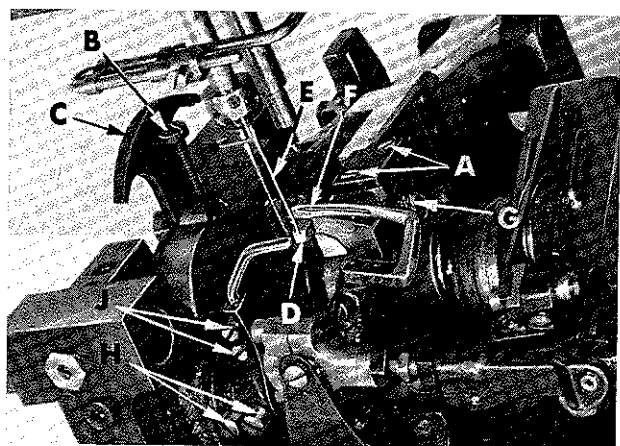

Fig. 11
To center main feed dog in the slots of throat plate across-line-of-feed, loosen screws (A, Fig. 11), move feed dog to the right or left as required, retighten screws. To center the feed dog in-line-
The differential feed ratio is set by loosening screw (B, Fig. 11) and move the selector slide (C) to the desired position. The screw and selector slide are accessible through the top of the cloth plate on the left side. Moving the differential feed selector slide (C) toward the front increases the amount of differential and moving it toward the rear decreases the amount of differential feed. Retighten screw.
Set the rear needle guard (D, Fig. 11) horizontally so that it does not quite contact the rear of the right needle (E) when at its most forward point of travel. A clearance of .005 inch (.13 mm) is permissible. It should be set as low as possible, yet have its vertical face approach within about 3/64 inch (1.19 mm) of the needle, until the point of the looper (F), moving to the left, is even with the needle. To move needle guard, merely loosen screw (G), move needle guard as required, and retighten screw.
Set the front needle guard so that it pushes the left needle back toward the path of the looper as it moves behind the needle. The looper may brush but not pick at the left needle. It should be set as low as possible, yet have its vertical face push the left needle until the point of the looper is just past the left side of the left needle. The front needle guard should not contact the rear needle guard or right needle at any time. To move guard forward or backward, merely loosen screws (H, Fig. 11) move needle guard as required and retighten screws. To raise, lower or rotate needle guard, loosen screws (J), move guard and retighten screws after guard is properly set.